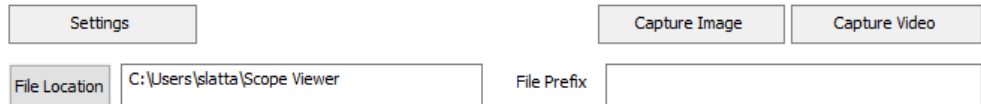

Figure 5
1. Select the *Capture Video* Button. (Fig 5).